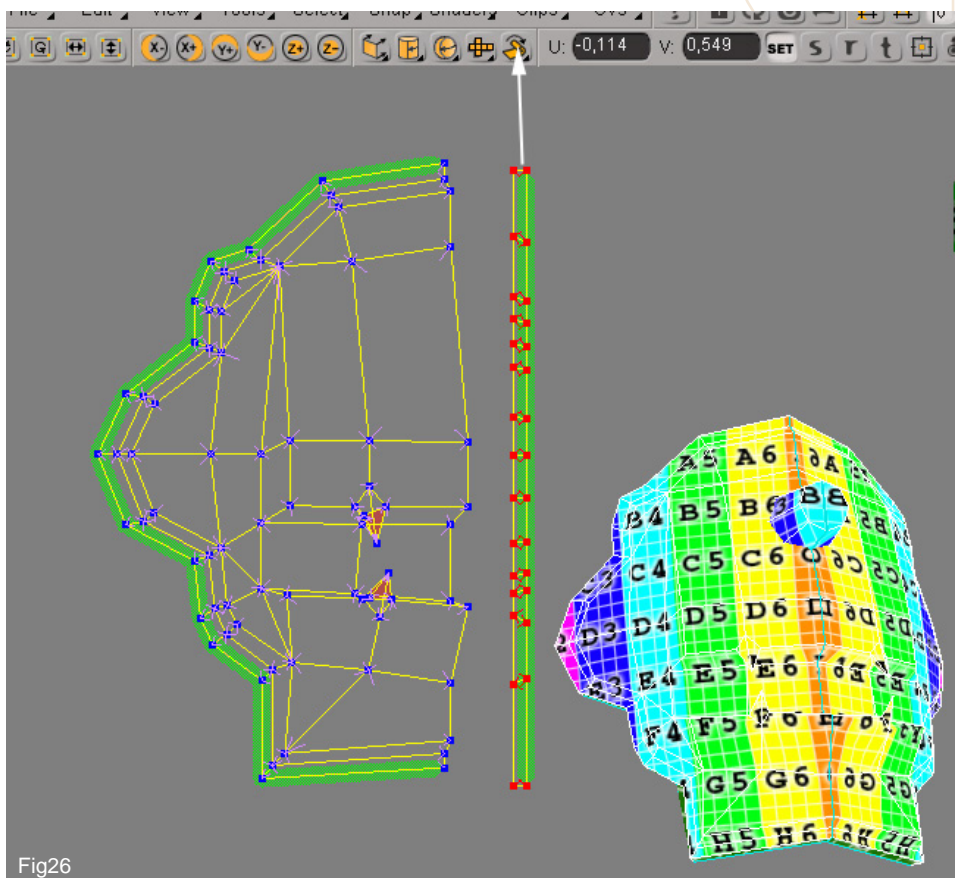

Fig26
26. You can create the mapping for the border of the shoulder armour with the ContourStretch sub-projections, as shown in Fig26. The icon of this tool is marked with the white arrow. Once you're done, just duplicate the half and merge the two parts together.